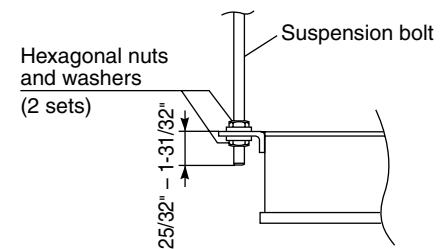

Fig. 3-104
- (3) Suspend and fix the indoor unit using the 2 hexagonal nuts (field supply) and special washers (supplied with the unit) as shown in Fig. 3-104.